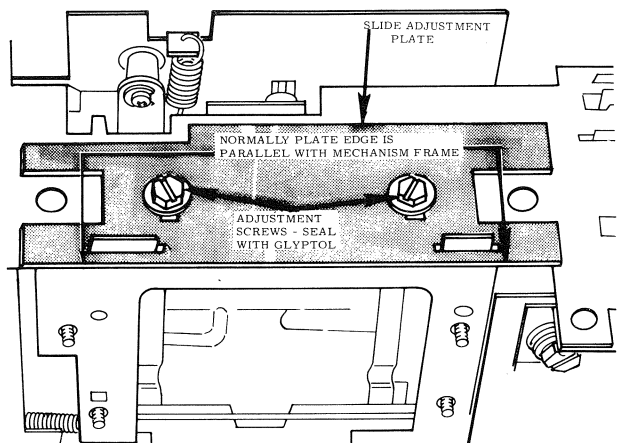

Figure 3-18. Slide Plane Focus Adjustment
5. Slide Plane Focus (Figure 3-18)- Slide plane focus is not a routine service need. The slide adjustment plate controls position (Right to left or top to bottom) of the slide guides. Normally, this plate is parallel and flush with the back edge of the frame top. Also, if a focus problem, inspect for something out of position.